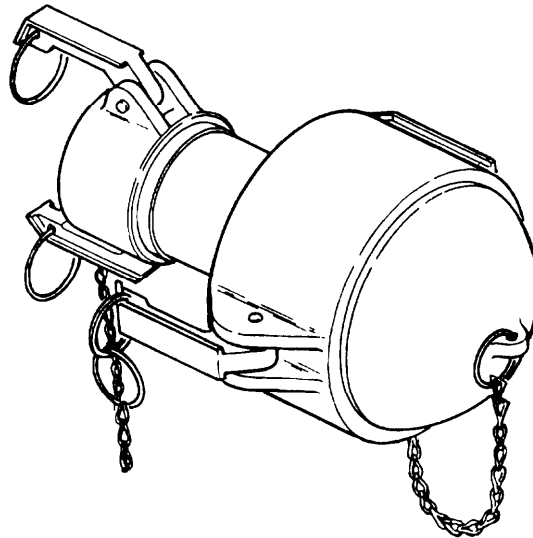

Figure 1-21. Adapter Assembly.
**1-26. ADAPTER ASSEMBLY, 3 IN. FEMALE BY 2 IN. MALE.** (Refer to Figure 1-21.)